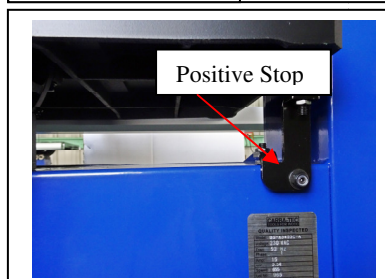

Figure 6
2. Using positive stop allows you to quickly return the table to 0 from a right-tilt setting and allows for calibration. Please tilt table to approximately 10° right-tilt. (see Figure 6) Then, rotate positive stop to up position. Finally, tilt table down until it rests on positive stop and then tighten table tilt lock lever.